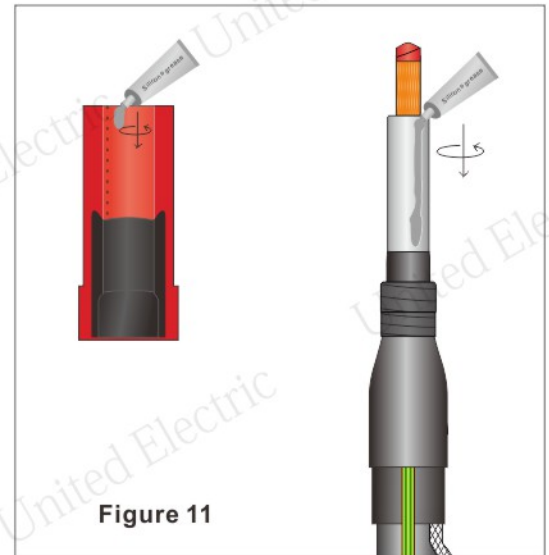

Figure 11
- Coat silicone grease onto the inner surface of the stress cone where marked with the dotted line as figure 11.